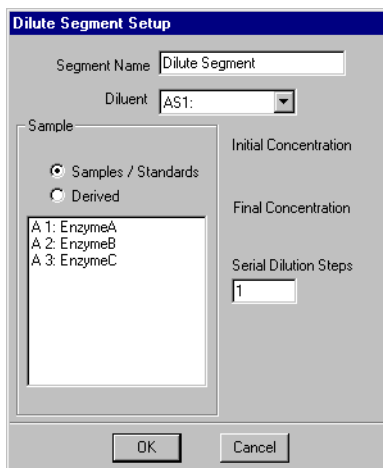

Figure 6-20 Dilute Segment Setup Dialog Box
1. Click the Prep block and click the Segment **D** button to display the Dilute Segment Setup dialog box (Figure 6-20).